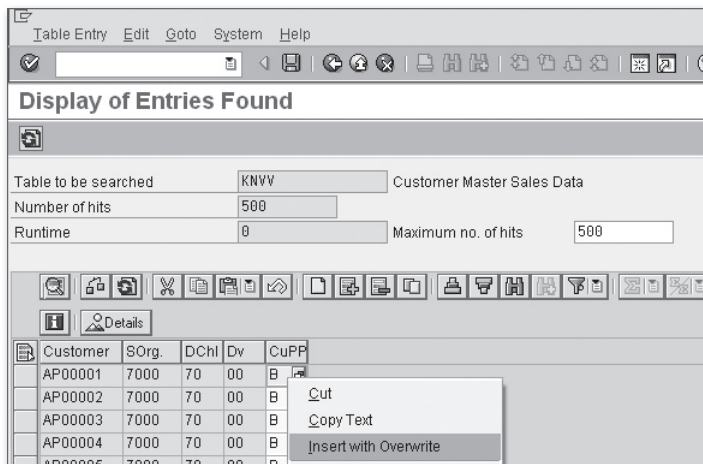

Figure 2.14 Insert with Overwrite to Insert Values from the CuPP Field
- Open the context menu for the first row of the Customer Pricing Procedure (CuPP) field and select Insert with Overwrite (Figure 2.14).